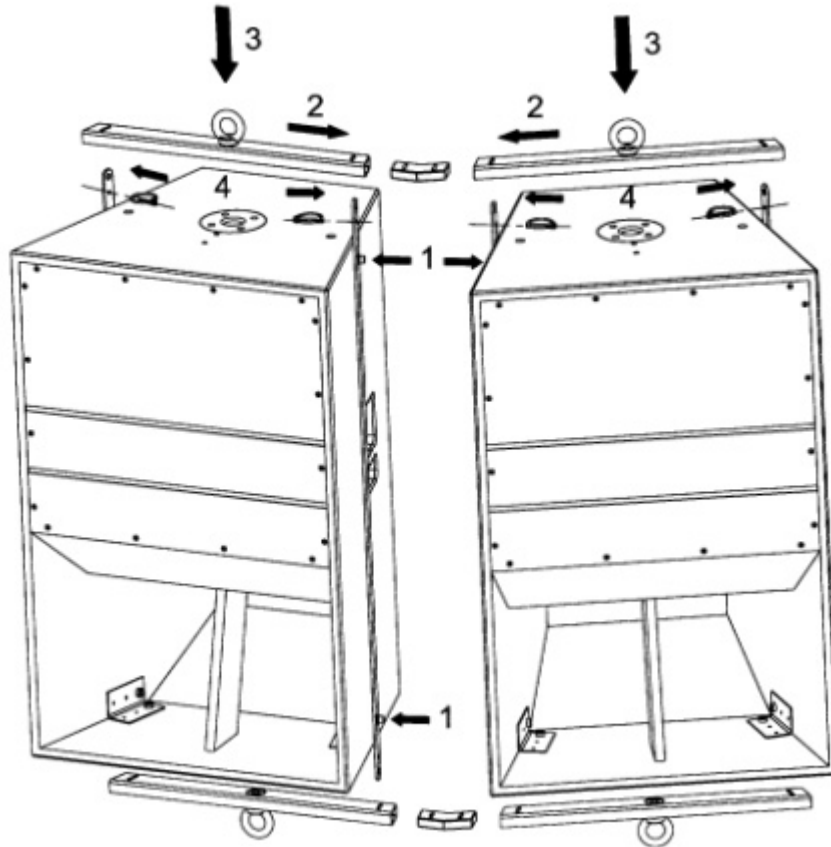

Figure 10d
The flown system is assembled as shown in *Figure 10d*. The SR18 side rail kit is screwed to the side of each cabinet using the screws provided (1). The JK1 Jointing Kit is slotted between two SCB Beam Kits for both the top and bottom (2). The combined SCB Beam Kits are placed above and below the speaker (3). The Lynch Pin is inserted into the holes of the side rail kit top and bottom (4) and the Pin folded to secure it in place (*Figure 10c*, page 10).